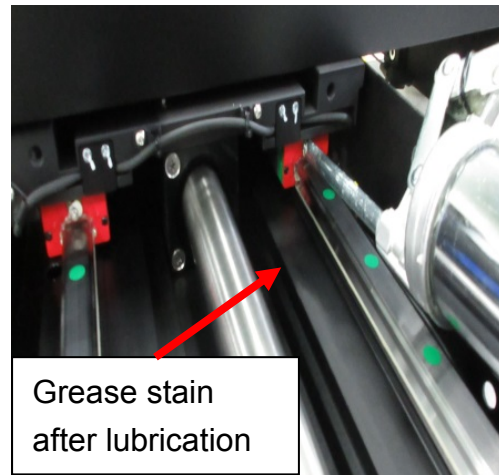

Fig. 6
- (2) Observe whether there is any grease spilling from the scraper. If the grease has spilled, please stop injecting grease (Fig. 6).